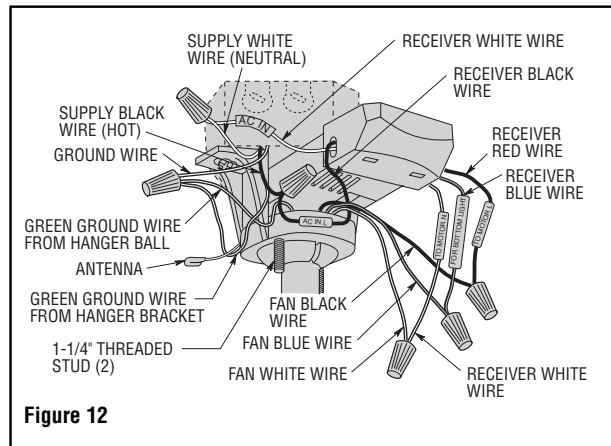

Figure 12
1. Position the supply wires to the left side of the outlet box (Figure 12); position the fan wires to the right side. Partially insert the remote control receiver (flat side up) until one end rests on the hanger ball as shown in Figure 12.
2. Refer to Figure 12 and 13 and connect the receiver wires to the supply wires and the fan motor wires as follows: